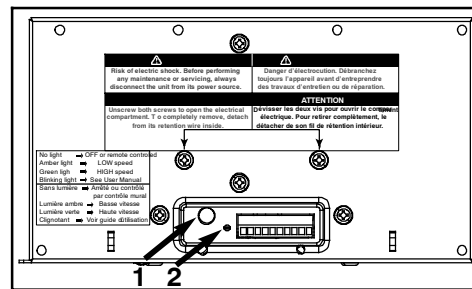

Fig. 9 - Integrated Control
All units are equipped with an integrated control, located under the unit, in front of the electrical compartment. Use the push button (1) to control the unit. The LED (2) will then show on which mode the unit is in. Integrated Control overrides Wall Control function. When LED is off, ventilator responds to Wall Control command. See Fig. 9.